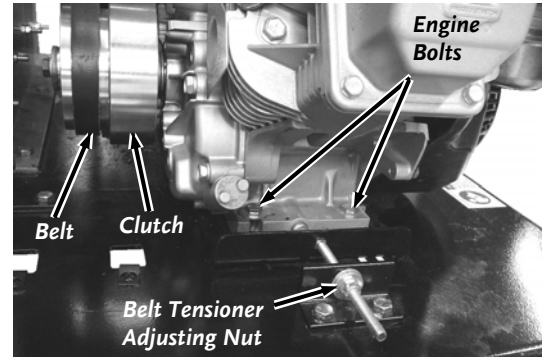

Figure 29
4. Loosen the four Engine Bolts (two on the left side and two on the right side) using two 1/2" Wrenches, one on the Bolt and one on the Locknut underneath the Base (**Figure 29**).
- 5. Tighten the Engine Bolts (**Figure 29**)
- 8. If the measurement is not correct, loosen the Engine Bolts and tighten or loosen the Adjusting Nut as needed (**Figure 29**).